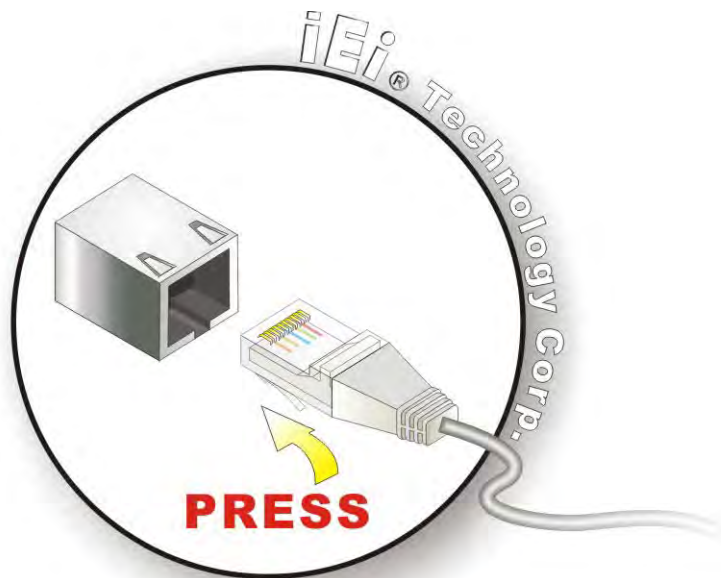

Figure 3-10: LAN Connection
Step 2: Align the connectors. Align the RJ-45 connector on the LAN cable with the RJ-45 connector on the uIBX-230-BT. See Figure 3-10.